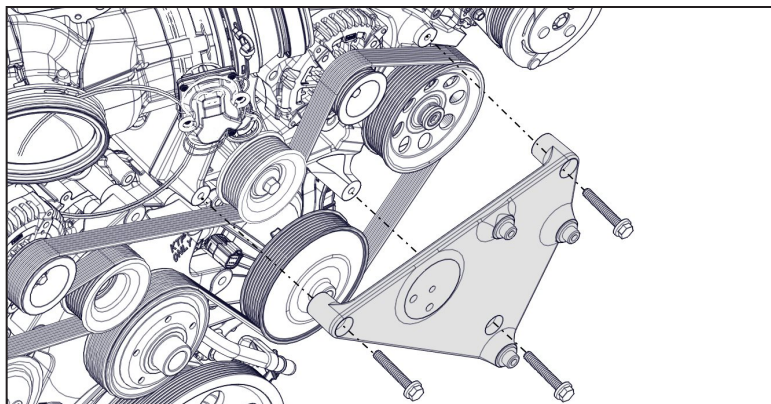

Figure 55 — Installing the FEAD bracket
- ☐ Install the VMAC FEAD bracket onto the VMAC main bracket (Figure 55).